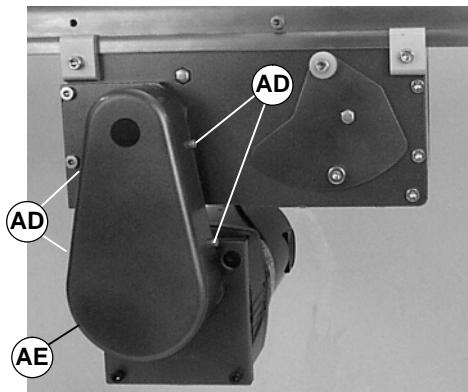

Figure 21
NOTE: Figures 21 & 22 show a vertical mount in the A1 position. Horizontal mount and/or D1 position are similar.
3. Remove four (4) screws (AD of Figure 21) and remove cover (AE).